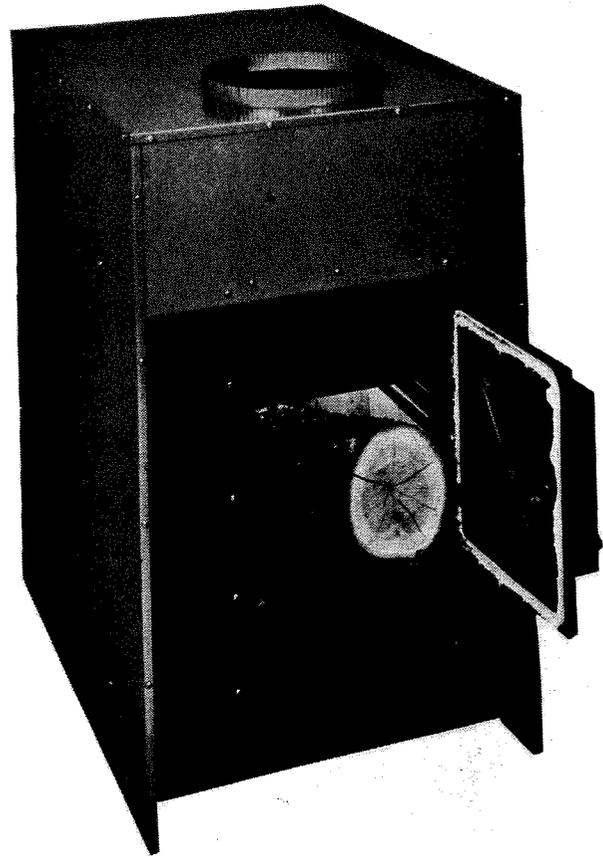

Fig. 89. Woodmaster supplemental furnace unit.
30. **Suburban** (manufacturer), P.O. Box 399, Dayton, TN 37321. Makes the Woodmaster supplemental furnace unit (Fig. 89 and Table 10), with optional blower.